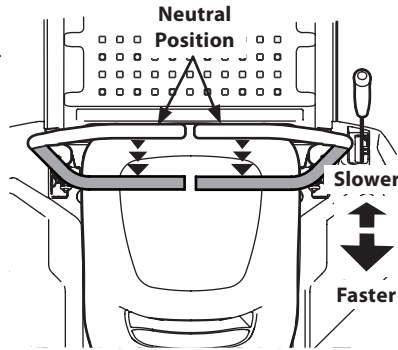

Figure 30
5. Slowly and evenly move both lapbar drive control levers rearward. The tractor will start to move in the reverse direction. See Figure 30.